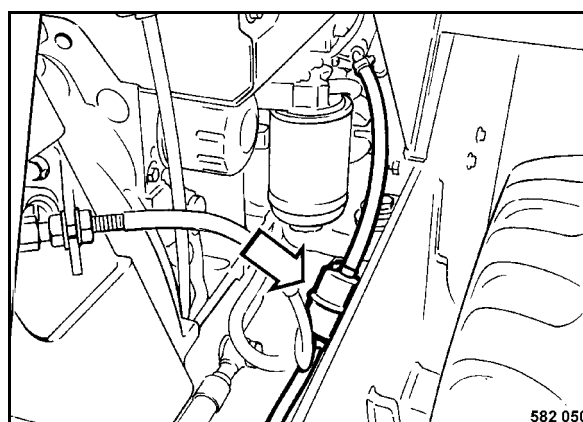

Fig. 90
- Remove the hose clamps and pull the fuel pre-filter (Fig. 90) out of the fuel hoses.